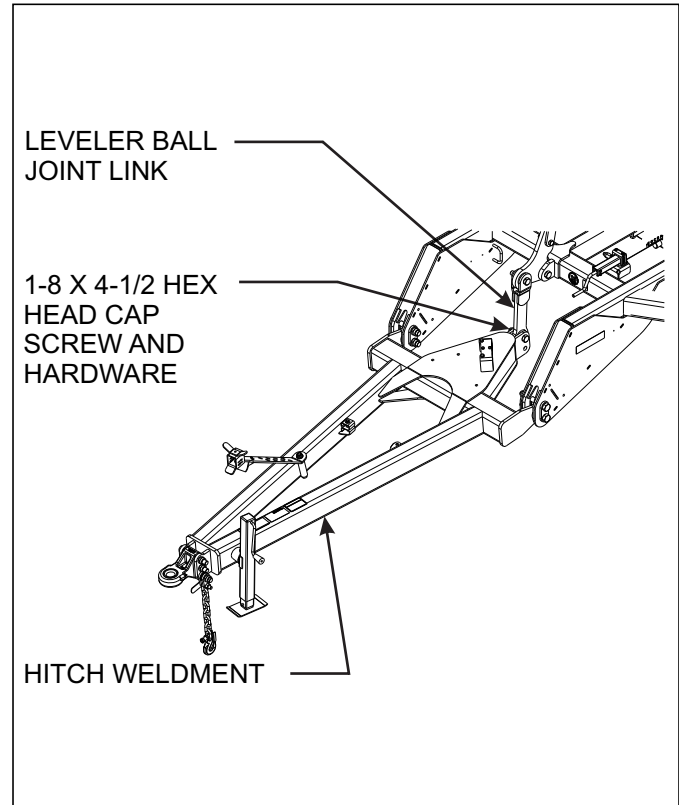

Figure 4-10: Hitch Adjustment
4. To adjust the hitch (**See Figure 4-10.**)